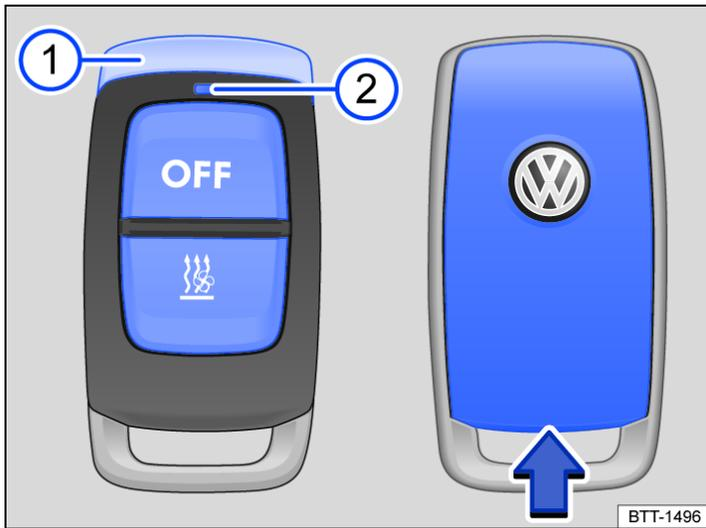

Fig. 1 Auxiliary heater: remote control (left) with battery compartment (right).
- Switching on: press the  button for approximately one second → Fig. 1.
- Switching off: Press the  button for approximately one second → Fig. 1.
The LED indicates various operating states after you press a button → Fig. 1 .